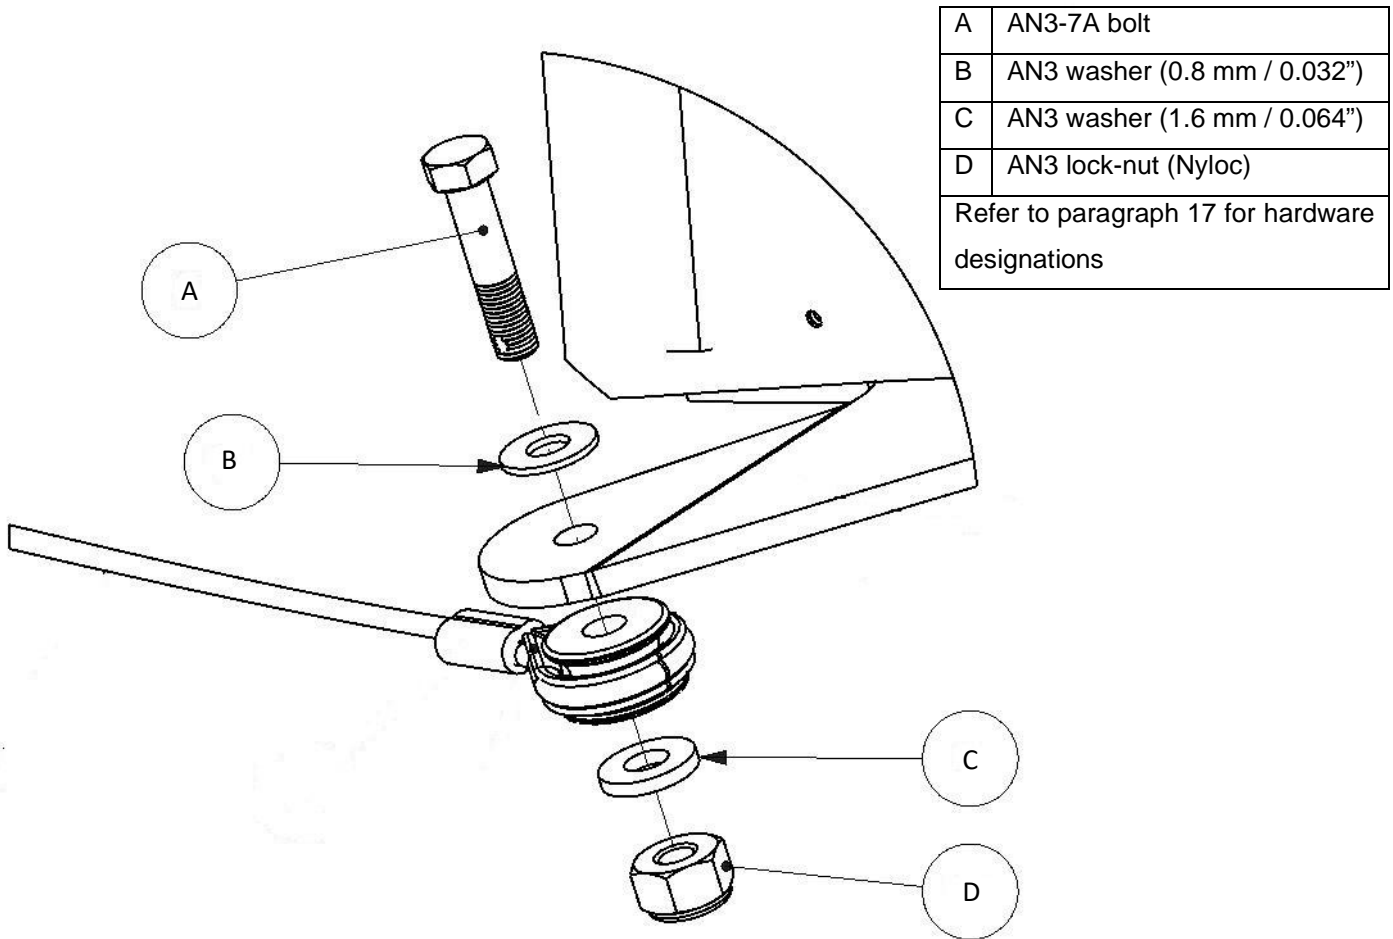

Figure 31: Rudder cable connection.
- Tighten the lock-nuts on the bolts attaching the rudder cables sufficiently, observe the correct placement of washers (refer to Figure 31) and note that the bolts are installed with their heads facing upwards.